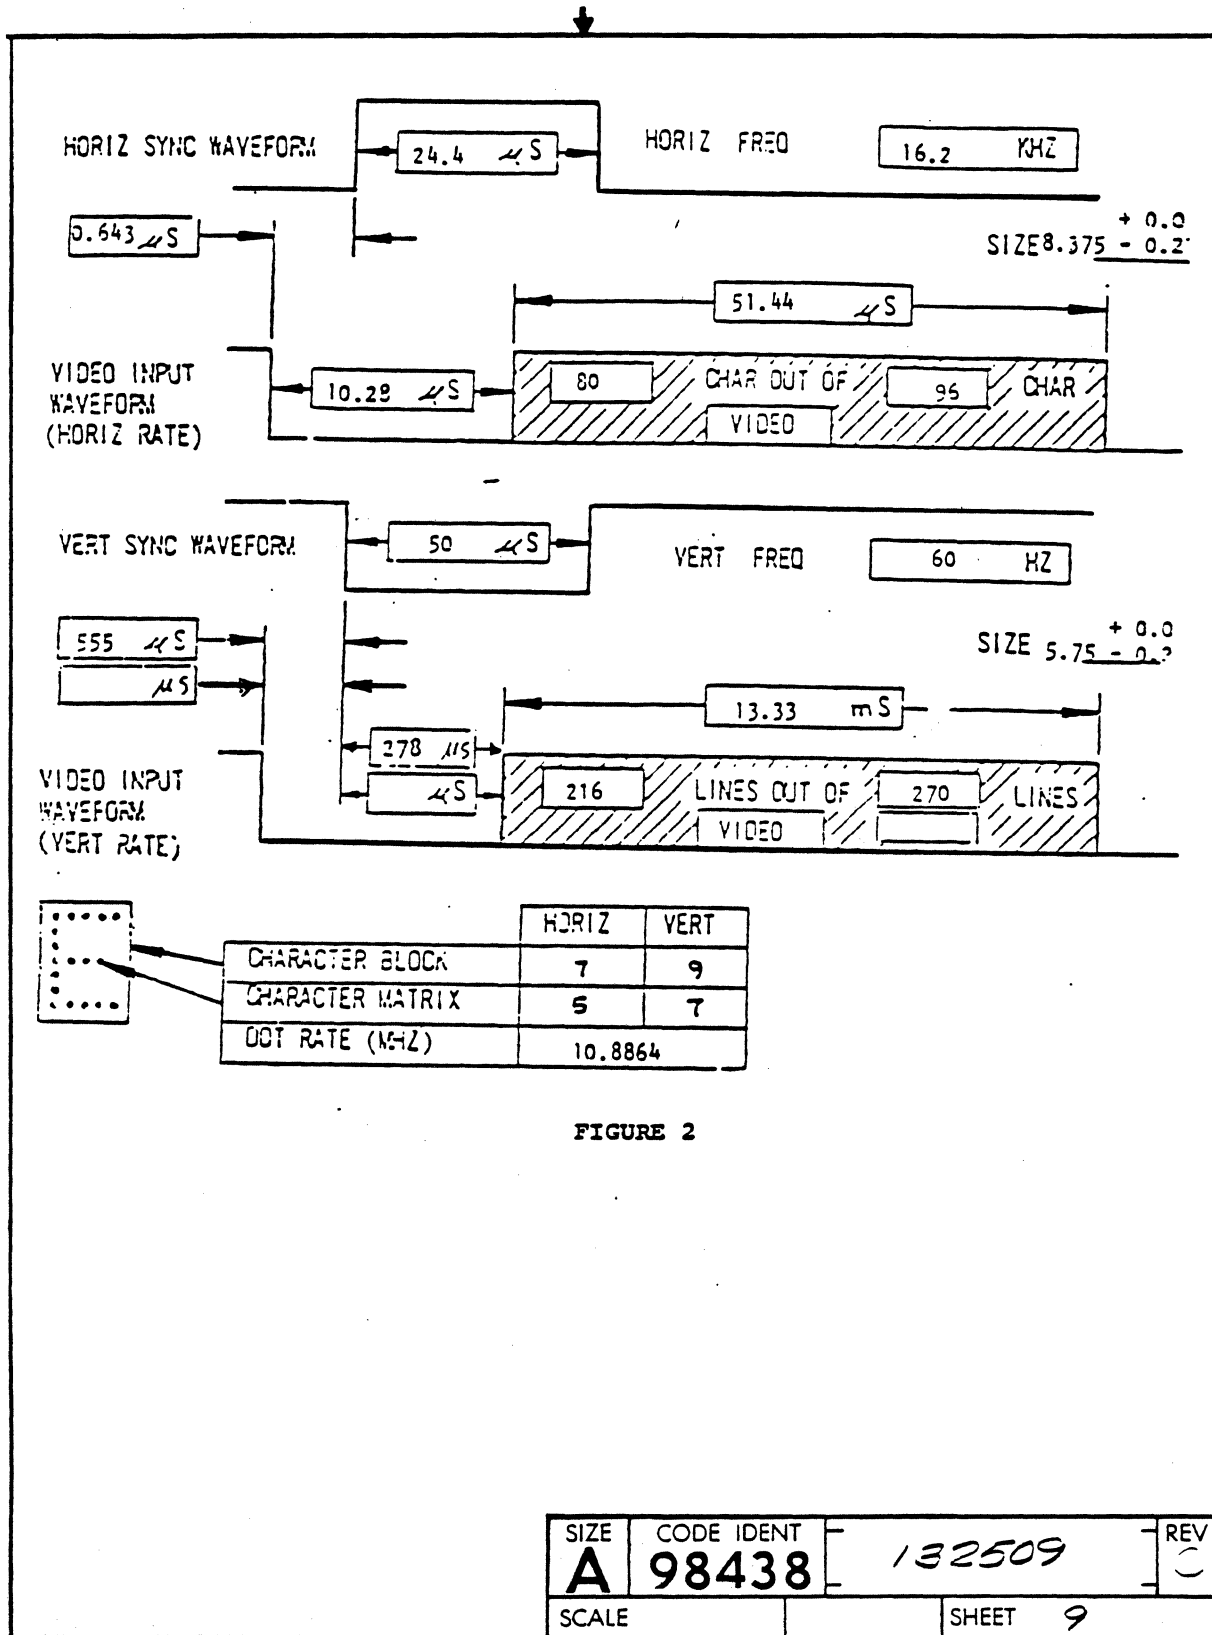

FIGURE 2
- 3.4.6 WAVEFORMS AND TIMINGS FOR 16.2 KHZ - SEE FIG. 2, FOR 19.2 KHZ, SEE FIG. 3.
3.3.5 THE VERTICAL CIRCUIT SHALL ACCEPT THE PULSE FORMAT GIVEN IN FIGURE 2.